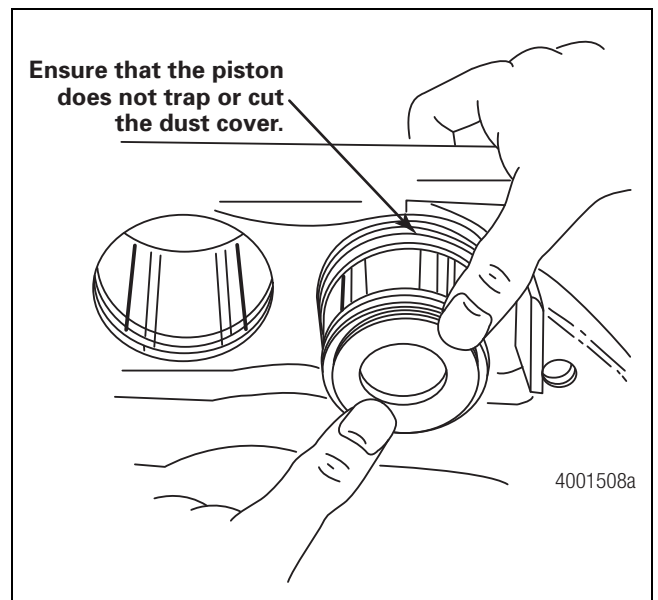

Figure 5.3
4. With assistance, open up the dust boot and slide the piston through the dust boot and down the bore. Figure 5.3. Ensure that the piston does not trap or cut the dust cover. Release the dust boot, pucker it to release any trapped air and settle it into the groove in the piston.